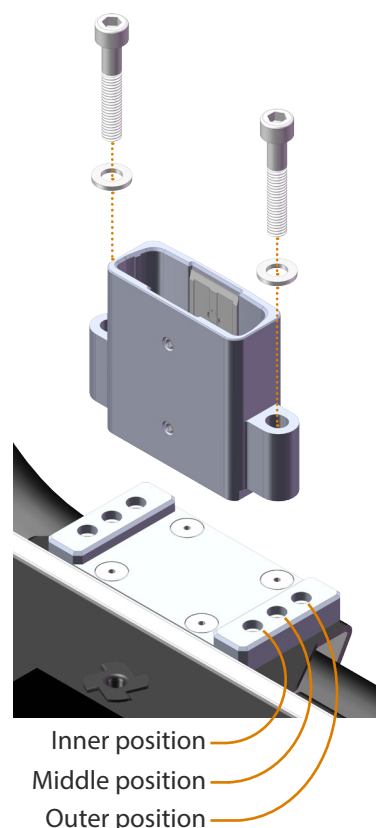

Figure 19. Left-hand armrest mount
- Unscrew the two screws that secure the armrest mount (Figure 19).